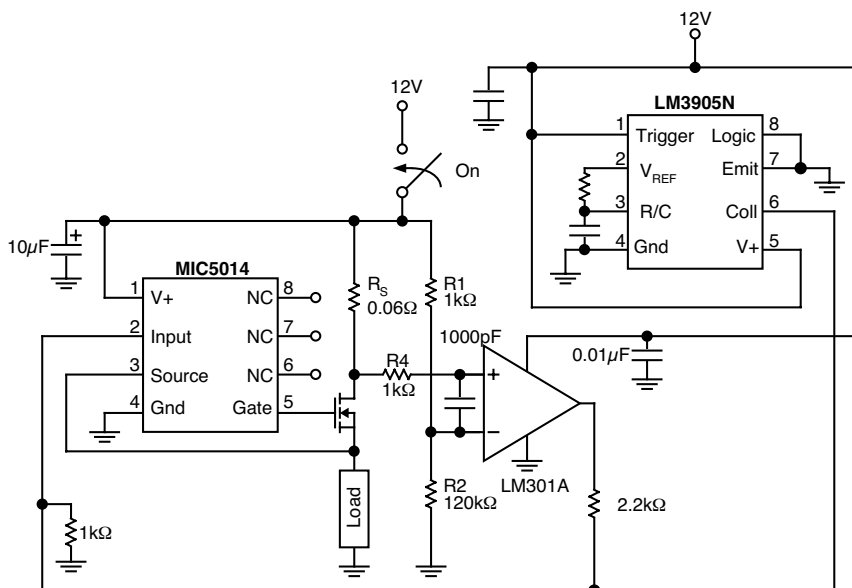

Figure 5. High Side Driver with Delayed Overcurrent Shutdown
**High Side Driver With Delayed Current Sense** (Figure 5)
Delay of the overcurrent detection to accommodate high inrush loads such as incandescent or halogen lamps can be accomplished by adding an LM3905 timer as a one shot to provide an open collector pulldown for the comparator output such that the control input of the MIC5015 stays low for a preset amount of time without interference from the current sense circuitry. Note that an MIC5015 must be used in this application (figure 5), as an inverting control input is necessary. The delay time is set by the RC time constant of the external components on pins 3 and 4 of the timer; in this case, 6ms was chosen.
If overcurrent sense is to be used, first measure the duration of the inrush, then use the topology of Figure 5 with the RC of the timer chosen to accommodate the duration with suitable guardbanding.